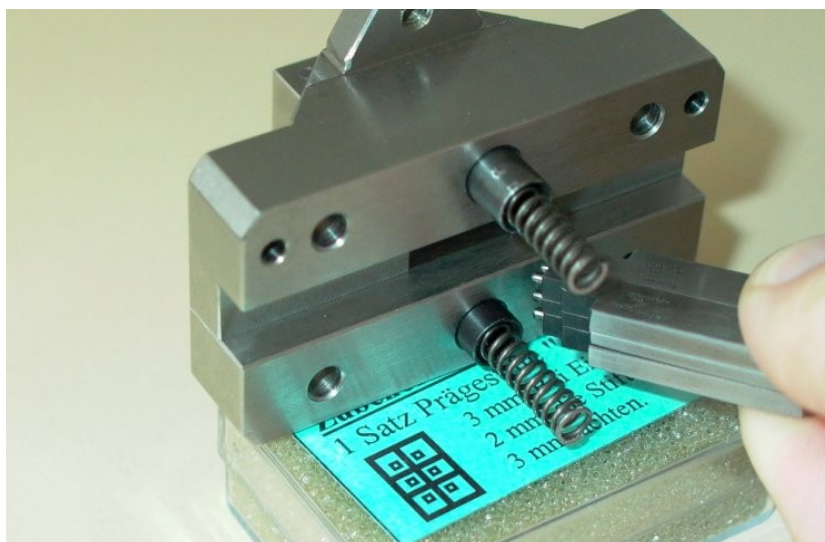

Fig. 2.8
- Take all six embossing pins out of the head (Fig. 2.8). Take care that the pins for dot 2 and 5 are not as thick as the other 4 pins.
- Assemble the six pins as in Fig. 2.8 and insert the block into the head.